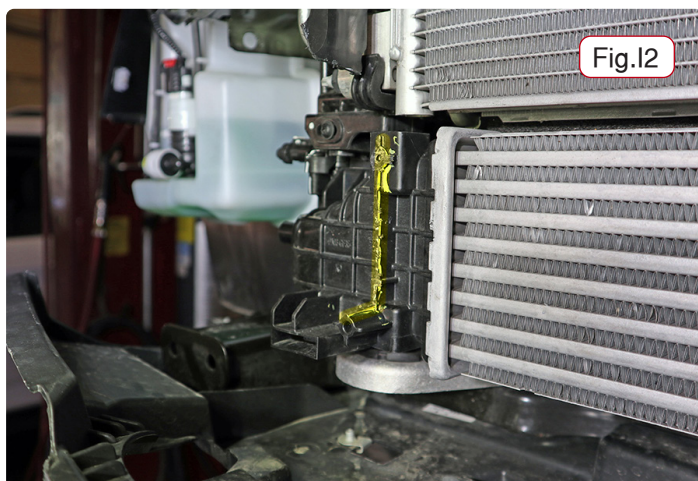

Fig.I2
8. On each side, carefully trim the upper intercooler end cap as indicated in Figure I2.